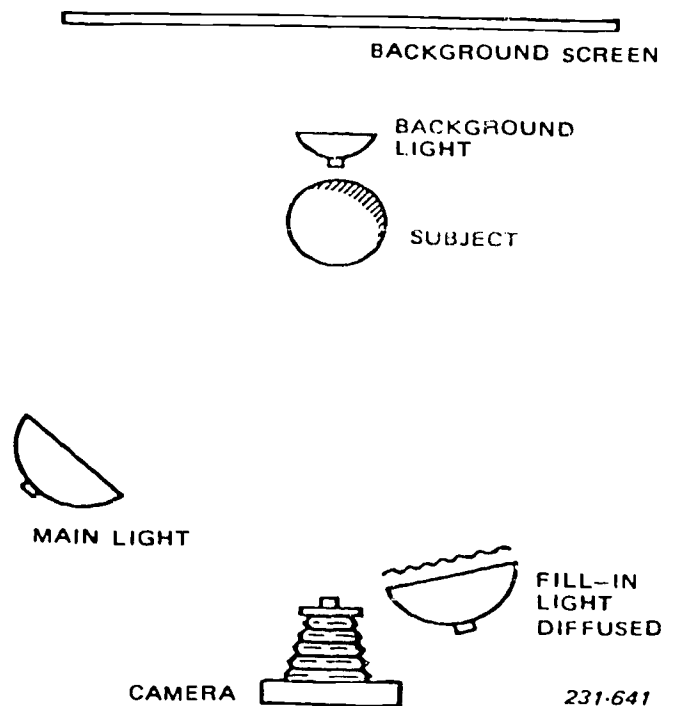

Figure 3-4. Add the background light.
*The background light.* The background light is a small lamp on a short stand placed about midway between the subject and the background. This light provides good tonal separation between the subject and the background. (See fig. 3-4).